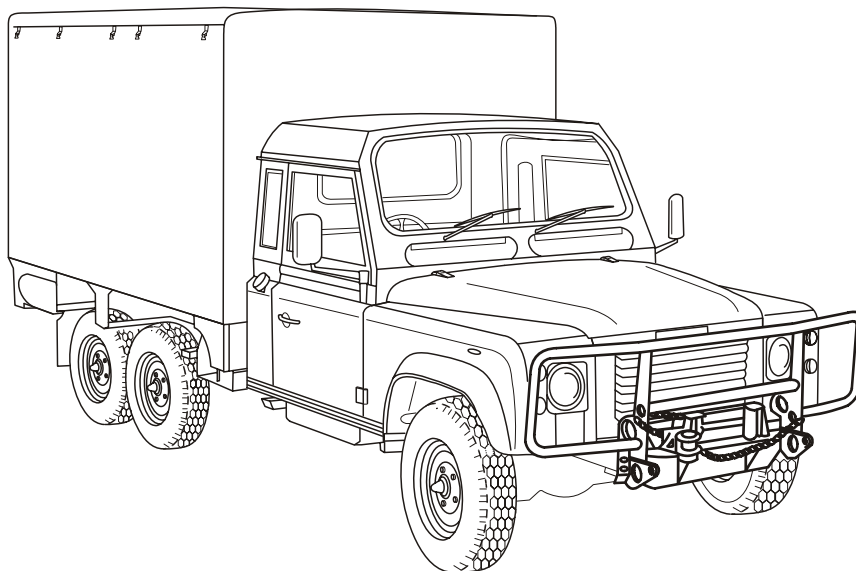

Figure 1 Truck, Air Defence, Land Rover 6 x 6, FFR, W/Winch, Fire Unit Vehicle (FUV)
1. This EMEI contains the technical description of the Truck, Air Defence, Land Rover 6 x 6, FFR, W/Winch, Fire Unit Vehicle (FUV) shown in Figure 1. All relevant weights, dimensions and performance figures are detailed in the data summary EMEI Vehicle G 280. Except for the rear body assembly, the mechanical characteristics are the same as the Truck, Cargo, Light, Winch, MC2, therefore, for further information relating to the mechanical functions of this vehicle, refer to EMEI Vehicle G 202.